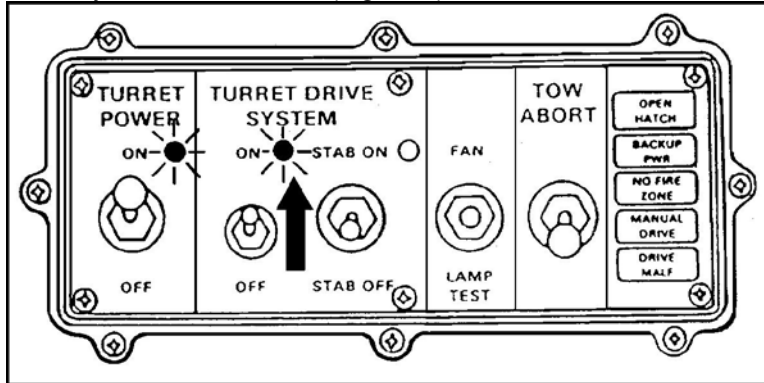

Figure 2. Turret drive system and indicator light.
3. Move the turret drive system switch to ON (Figure 2).